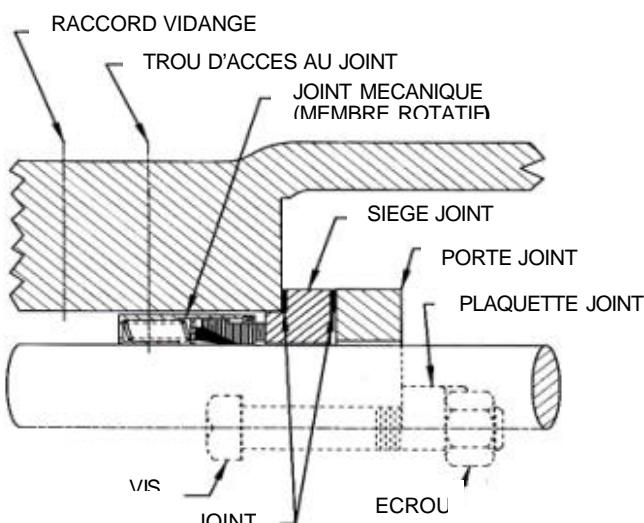

FIGURE 10
- 3.** Collet Teflon® (Figure 10)